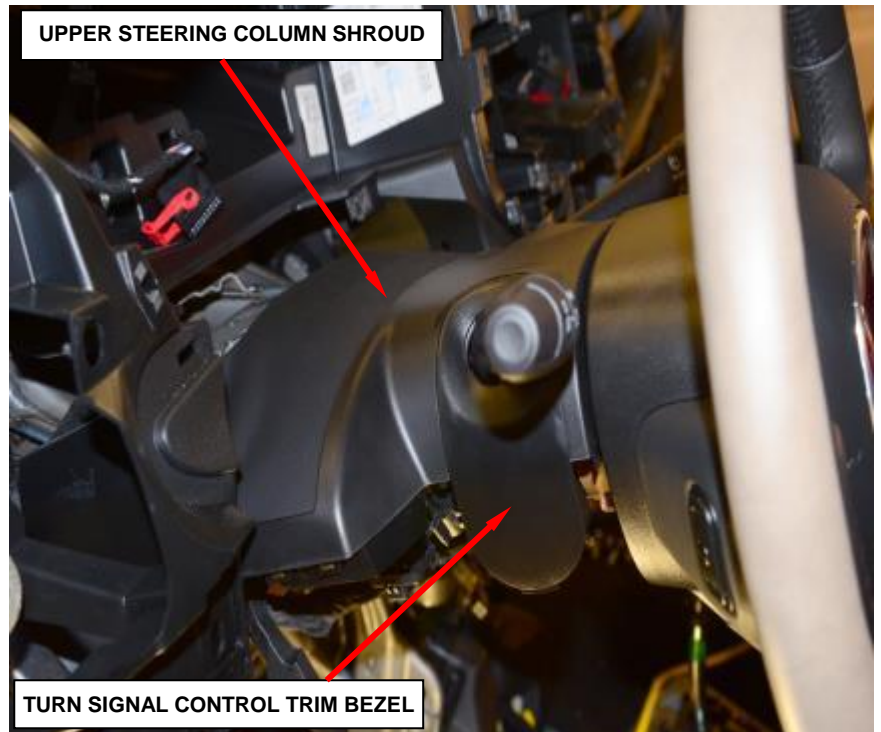

Figure 15 – Turn Signal Control Trim Bezel
22. Using a trim stick or equivalent, remove the turn signal control trim bezel from the upper steering column shroud (Figure 15).